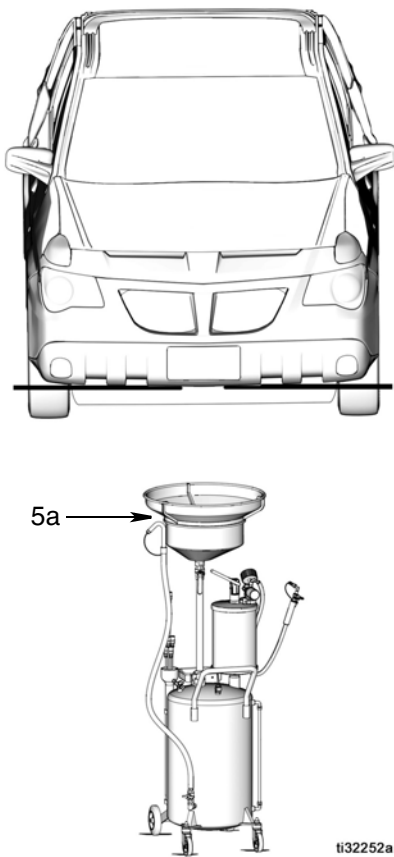

FIG. 19
3. Position the drain bowl (5a) under the car to collect the waste oil (FIG. 19).